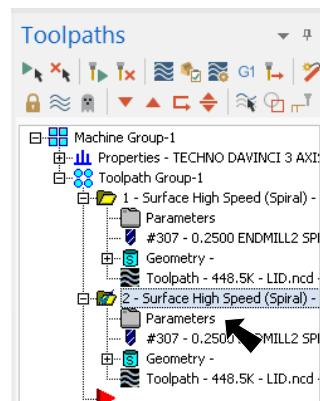

Fig. 70
Then, use **Ctrl-C** and **Ctrl-V**, Fig. 70.
- Step 2. Expand copied Surface High Speed Spiral toolpath and click **Parameters**, Fig. 70.